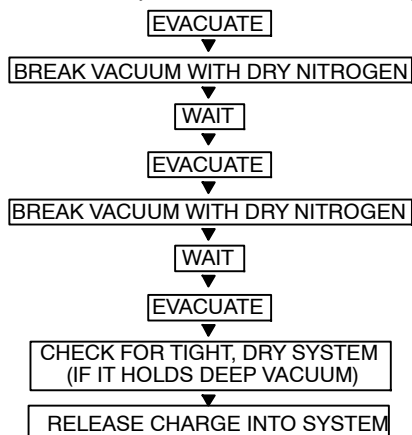

Fig. 19 – Triple Evacuation Method
Refer to Fig. 19 and proceed as follows:
- 5 Repeat this procedure as indicated in Fig. 19. System will then be free of any contaminants and water vapor.